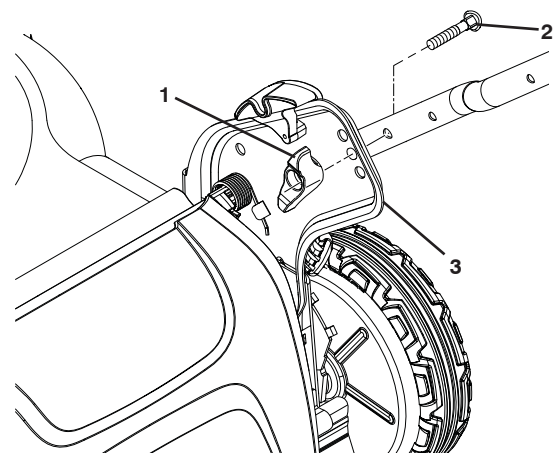

Figure 27
2. Remove the two (2) handle knobs and carriage bolts on sides of the lower handle and pivot entire handle assembly forward and allow it to rest on mower (Figure 27).